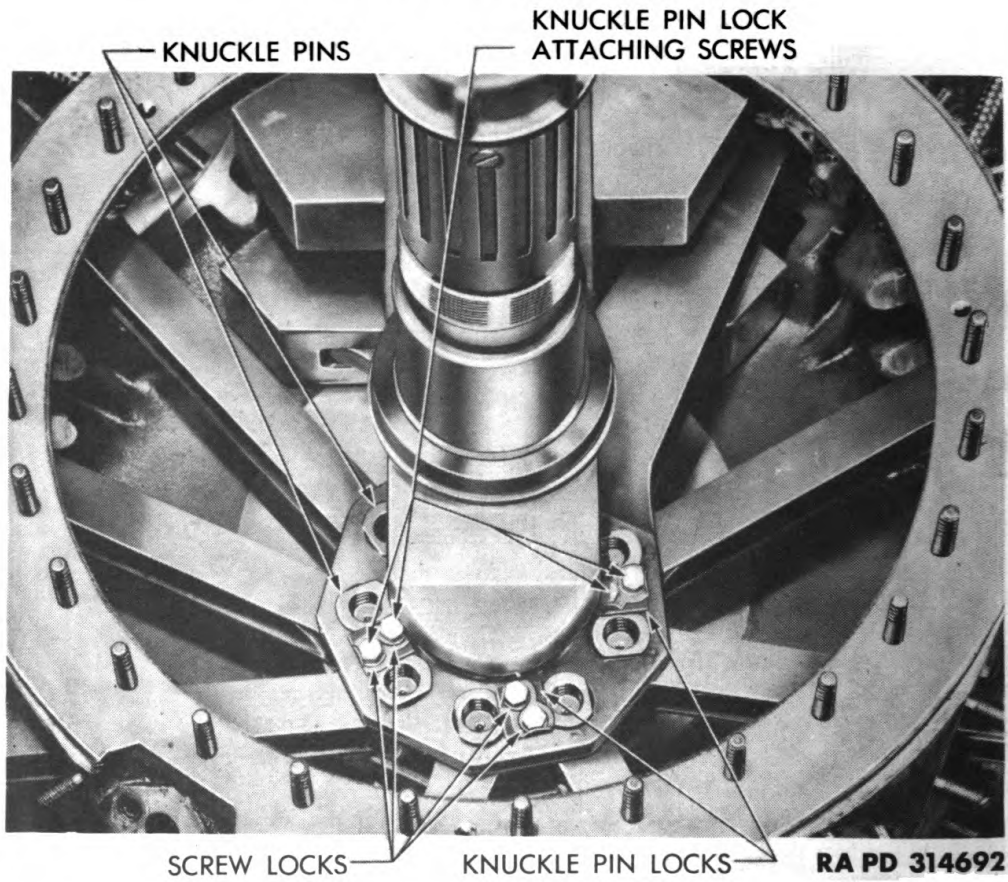

Figure 64 – Knuckle Pin Locks and Bolts
t. Remove Articulated Rods. Working through top (front) of main crankcase section, bend down screw locks which secure articulated rod knuckle pin locks (fig. 64). Turn crankshaft so that counterweights are exactly opposite knuckle pins to be removed. Remove two cap screws, screw locks, and knuckle pin locks. Insert threaded end of puller (41-P-2941-125) into knuckle pin (fig. 65). Install